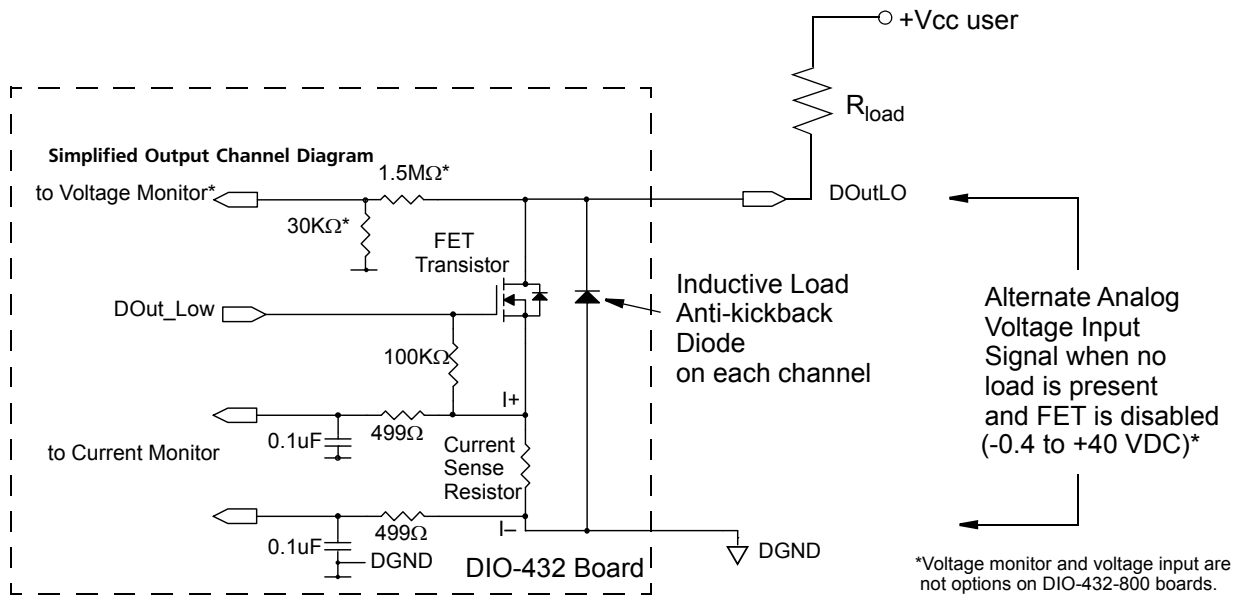
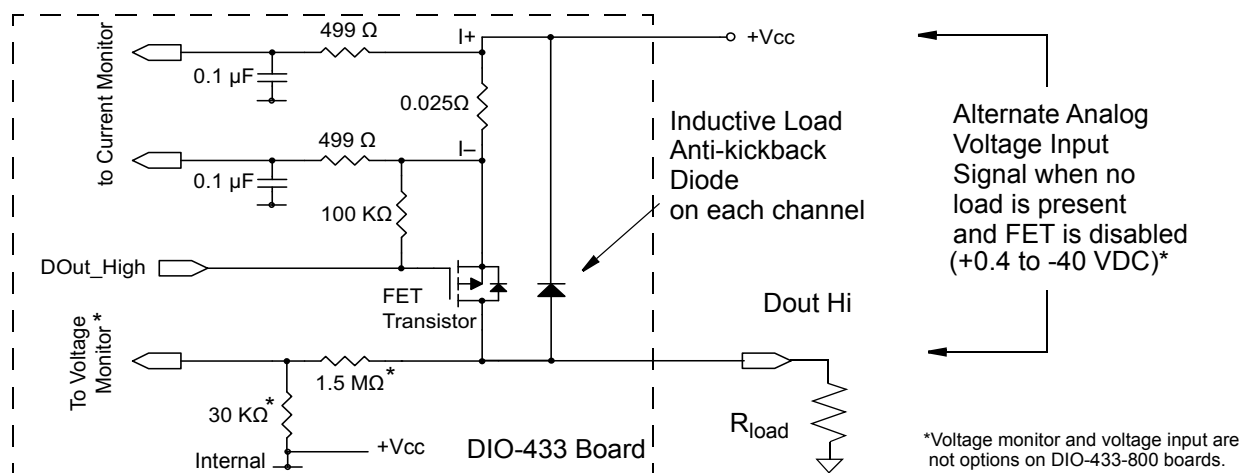

Figure 1-1 Schematic for Low-Side FET Digital Output in DIO-432
Figure 1-2 Schematic for High-Side FET Digital Output in DIO-433
Each channel in the DIO-432/433 series uses an FET in the output circuit to switch voltages in the range of 3.3 to 36.0 VDC. The boards require an external 3.3 to 36 VDC power supply for the load (see **Figure 1-1** and **Figure 1-2** for diagrams).
- Connect the voltage input signal between DOut LO (up to +40 VDC) and DGND (0 VDC), as shown in **Figure 1-1** below. The signal level should be in the -0.4 to +40 VDC input range relative to DGND
- Connect the voltage signal between DOut HI (up to -40 VDC) and GND (0 VDC), as shown in **Figure 1-2**. Note that the voltage input signal range can be +0.4 to -40 VDC relative to Vcc: